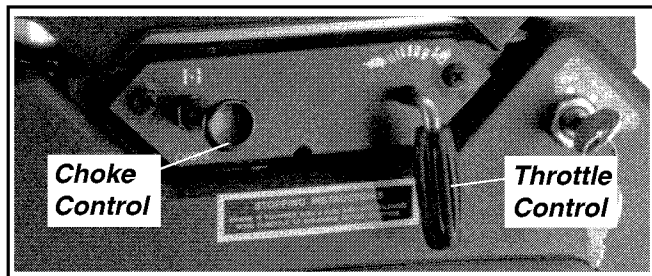

Figure 6. Optional Engine Mounted Throttle and Choke Controls (CH18-25,CH730,740).
1. Place the throttle control *midway* between the “*slow*” and “*fast*” positions. Place the choke control (non-EFI engines only) into the “*on*” position. See Figure 6.